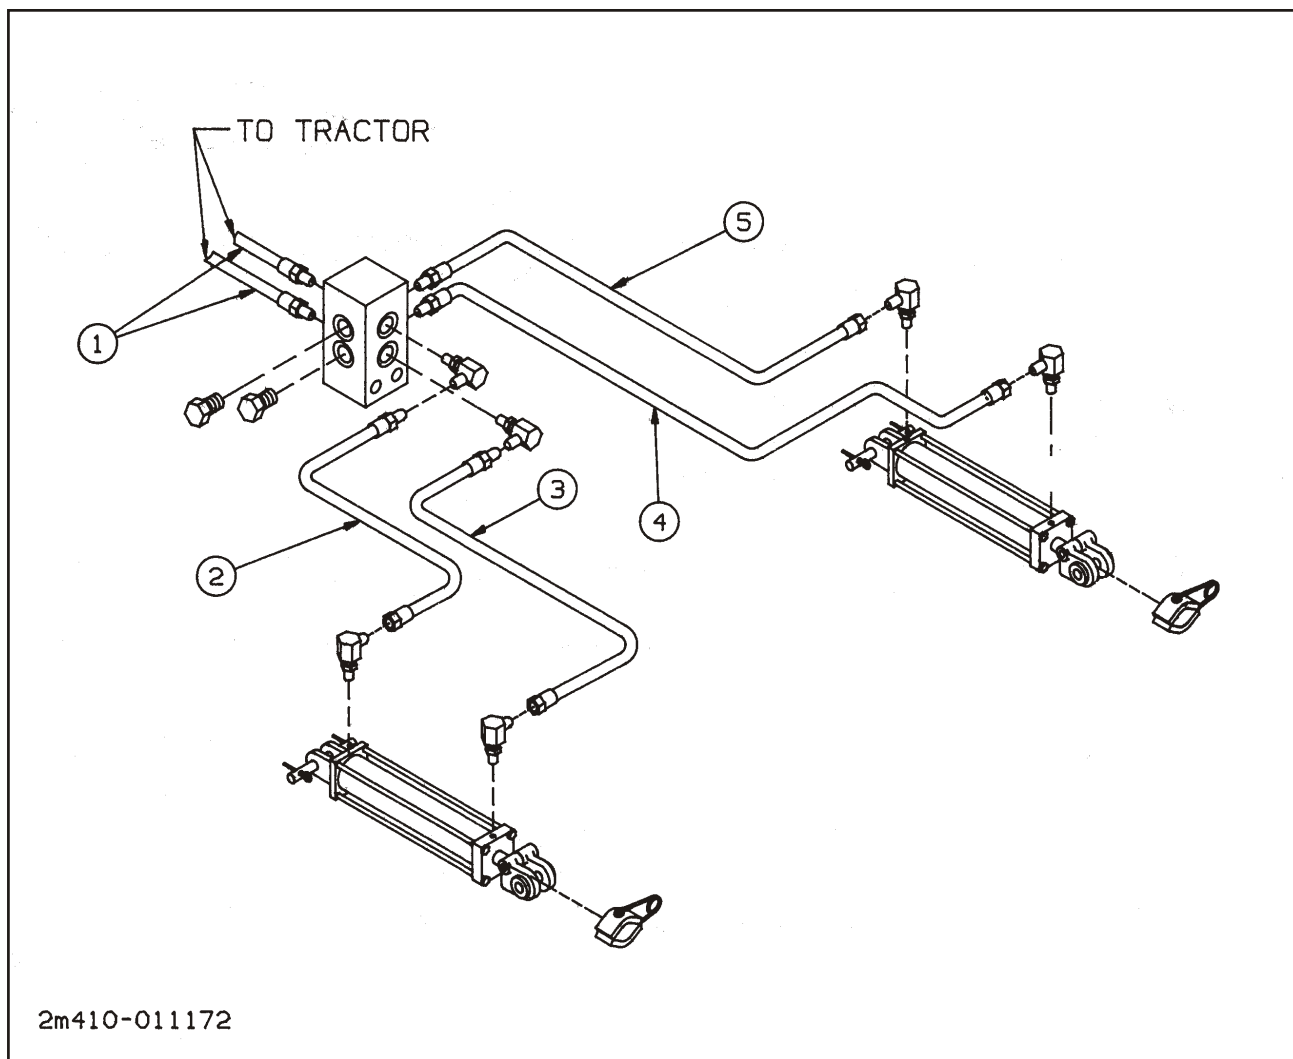

Figure 3-6 2225 Hydraulic Hose Installation
3. In the steps below, refer to Table 3-1 for hose part numbers and to Figure 3-6 to insure proper location of each hose during installation.